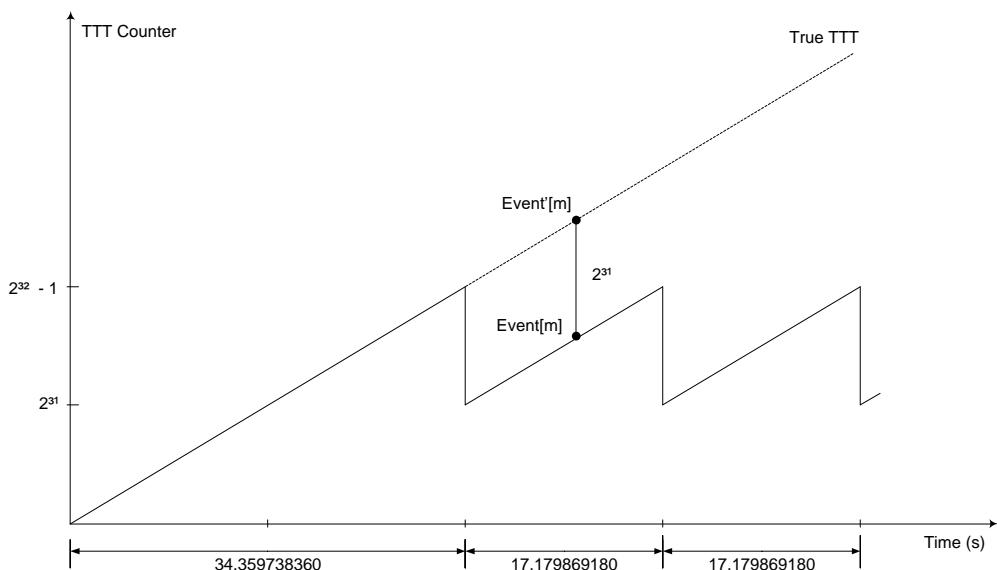

Fig. 9.4: TTT description.
- **TRIGGER TIME TAG** (bits[31:0] of 4th header word) is the 31-bit Trigger Time Tag (TTT) information (31 bit counter and 32nd bit as roll-over flag), which is the trigger time reference. The word is composed of the value of the 31-bit counter of the Trigger Time Tag (bit[30:0]) plus the overflow bit (bit[31]) indicating that the timestamp counter has overflowed at least once (Fig. 9.4). If the ETTT option is enabled, then this field becomes the 32 less significant bits of the 48-bit Extended Trigger Time Tag information in addition to the 16 bits (MSB) of the TRG OPTIONS field (2nd event word). Note that, in the ETTT case, the roll-over flag is no more provided (Fig. 9.5). The trigger time tag is reset either at the start of acquisition, or via front panel signal on S-IN or LVDS I/O connectors, and increments with 125 MHz frequency (i.e. every 8 ns, that is  $\frac{1}{2}$  ADC clock cycle). The TTT value is read at half this frequency (i.e. 62.5 MHz) so that the specifications are 16 ns resolution and 17 s range ( $8 \text{ ns} \times (2^{31} - 1)$ ), which can be extended to 625 h ( $8 \text{ ns} \times (2^{48} - 1)$ ) if ETTT is enabled.